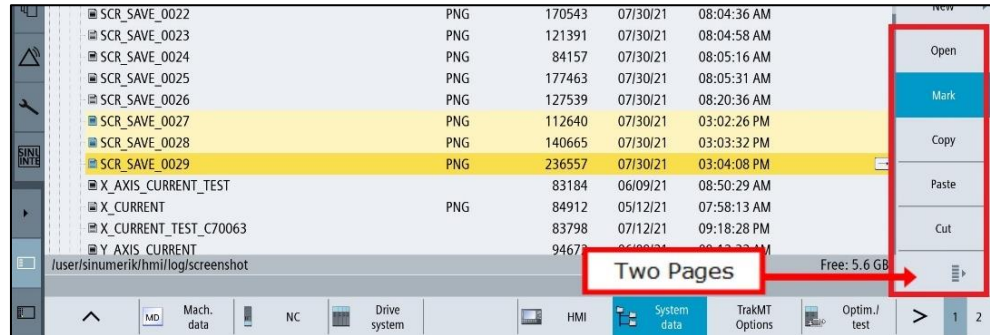

Figure 3.8b Copy Files
3. The right side VSK have buttons to make files easy to copy. From the screenshots directory and press "Mark" on a file then select one or more files. Files are highlighted in yellow, press "Copy". At the top of the file list will be your USB installed on the right edge of the pendant. Highlight your USB (either TOP or BOT) and press "Paste" to your desired directory on the USB see figure 3.8b.